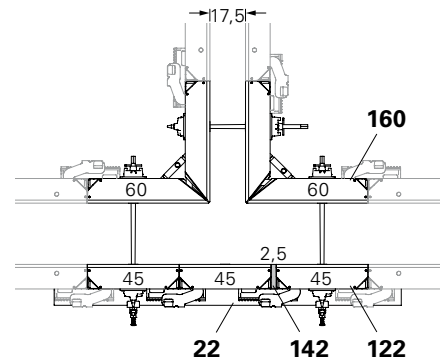

Fig. C5.02
- Wall thickness 17.5: Fig. C5.02